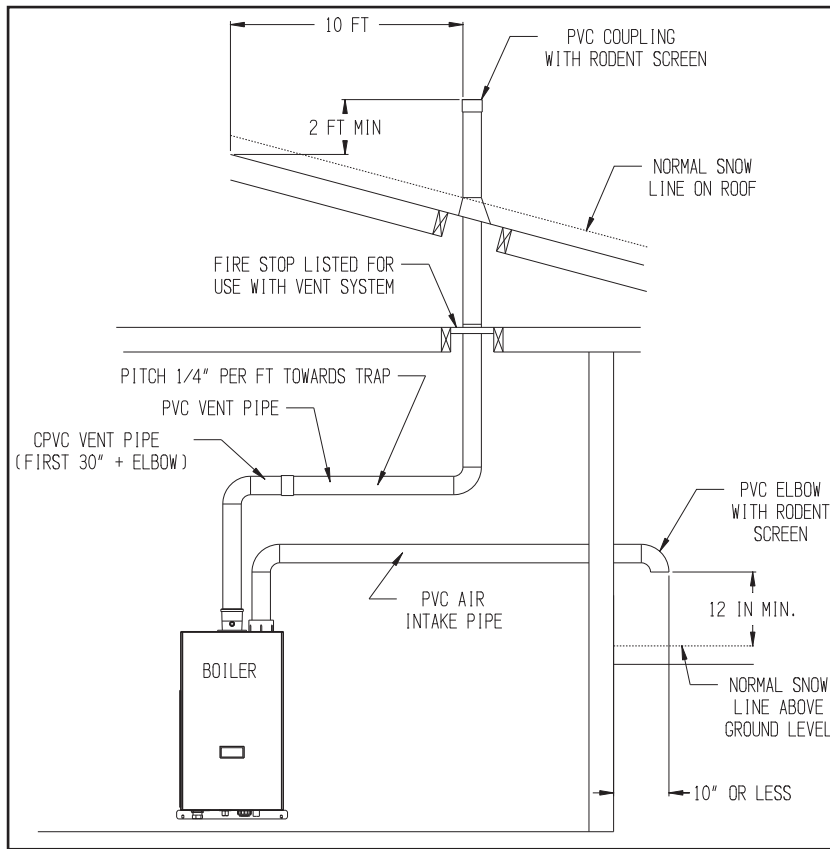

Figure 7.22: Split Rigid Vent System (Vent Options 25-32)
2. Vent Terminal Location – Observe the following clearances from roof mounted vent terminals (also see Figures 7.22, 7.23, or 7.24):
3. Horizontal Air Intake Terminal Location - Observe the following limitations on the intake terminal location (also see Figures 7.22, 7.23, or 7.24):